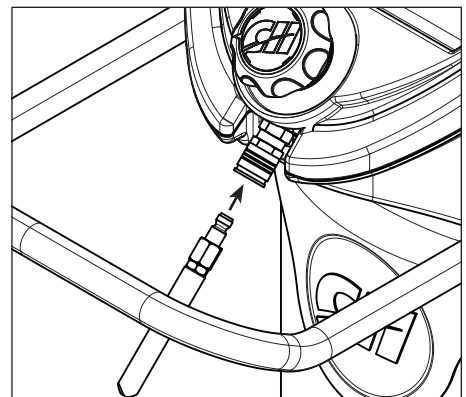

Figure 16 - Attach hose to coupler
2. Connect separate hose to the coupler located below pressure regulator by pulling the sleeve on coupler all of the way back, then push hose into coupler and release sleeve (See Figure 16).